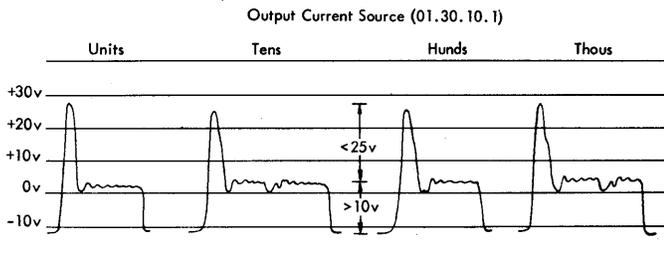

Figure 3-5a. Typical Waveforms for Good Cards
3. Observe (scope) the output of the four current source cards for possible defective card patterns. See Figures 3-5a and 3-5b.
2. Solder a 1/2 amp fuse, P/N 3577, into the jumper wire to prevent matrix switch damage if the current source or current driver is suspected. Once this is done, the machine may be run. The grounded matrix switch line will be selected all of the time. Scope the inputs of the current drivers and compare the scope pattern with correct scope pattern as shown in Figure 3-5a.